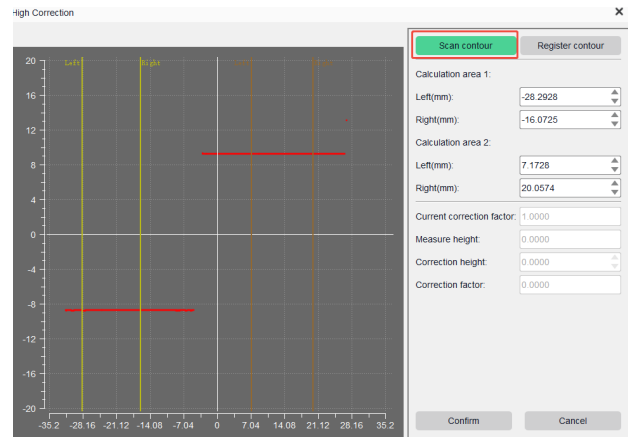

Figure 3.4.11 Obtaining the Profile
- 2 After entering the height correction interface, click the Scan Profile button to perform a profile scan and acquire profile data, as shown in Figure 3.4.11.